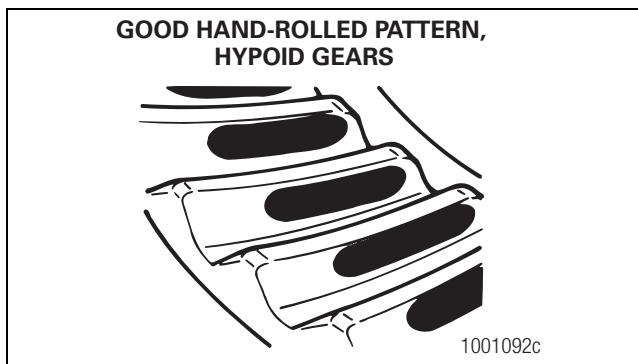
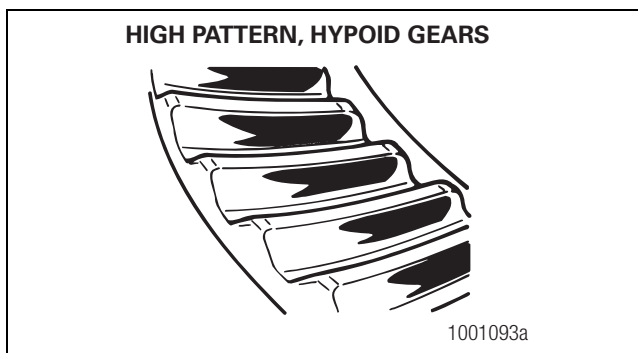
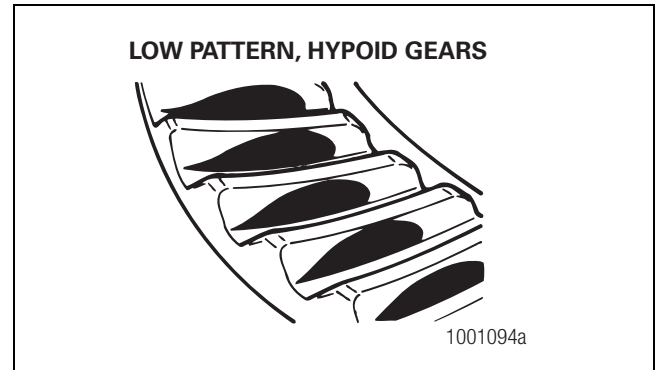

Figure 5.68
Figure 5.69
Figure 5.70
4. Look at the contact patterns on the ring gear teeth. Compare the patterns to Figure 5.68, Figure 5.69 and Figure 5.70.
The location of good hand-rolled contact patterns for new conventional and hypoid gear sets is toward the toe of the gear tooth and in the center between the top and bottom of the tooth. Figure 5.68.